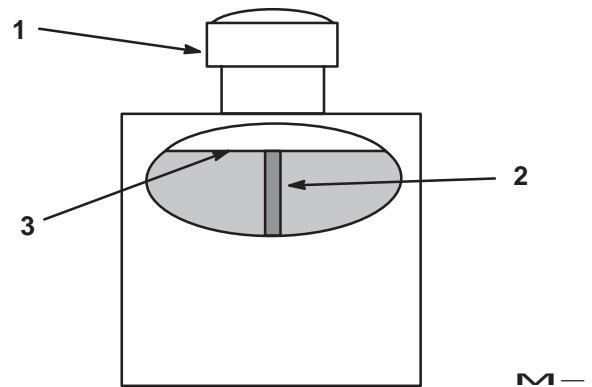

Figure 49
2. Clean area around filler neck of hydraulic tank (Fig. 49).
3. Remove cap from filler neck. Look inside to check if there is fluid in the reservoir. (Fig. 49).
- Note:** Fluid level should be to the top of the baffle when fluid is warm (Fig. 49).